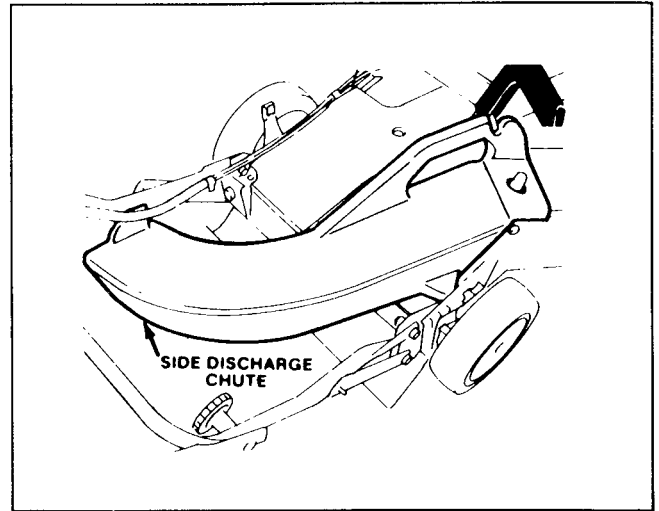

Figure 33
1. Side Discharge Kit, Model No. 59168 – Installs in seconds. Rear mounted in place of the grass bag. Disperses clippings while trimming on both sides (Fig. 33).